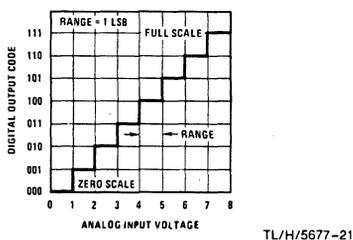

FIGURE 10. Quantization Uncertainty of a Perfect 3-Bit A/D
**Quantization Uncertainty:** Quantization Uncertainty is a direct consequence of the resolution of the converter. All analog voltages within a given range are represented by a single digital output code. There is, therefore, an inherent conversion error even for a perfect A/D. As an example, the transfer characteristic of a perfect 3-bit A/D is shown in Figure 10.
As can be seen, all input voltages between 0V and 1V are represented by an output code of 000. All input voltages between 1V and 2V are represented by an output code of 001, etc. If the midpoint of the range is assumed to be the nominal value (e.g., 0.5V), there is an Uncertainty of  $\pm 1/2$  LSB. It is common practice to offset the converter  $1/2$  LSB in order to reduce the Uncertainty to  $\pm 1/2$  LSB is shown in Figure 11, rather than  $\pm 1$ ,  $-0$  shown in Figure 10. Quantization Uncertainty can only be reduced by increasing Resolution. It is expressed as  $\pm 1/2$  LSB or as an error percentage of full scale ( $\pm 0.0122\%$  FS for the ADC1210).